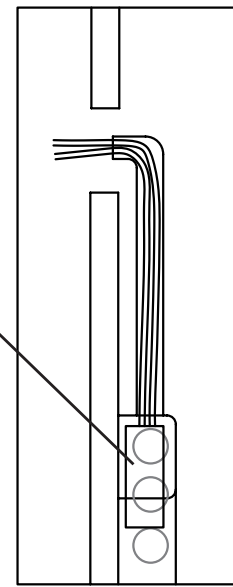

Fig. 2
2. The power supply (D) must be installed in a remote and accessible location near the fixture (E) in accordance with local electrical code (Fig. 2). Make appropriate connections:
3. Loosen set screws (A) and remove the fixture mounting block (B).
4. Mount the fixture mounting block (B) to the wall using drywall screws and anchors (not included), or other hardware as appropriate. The center of the mounting block is the center of your fixture location, and where the low voltage wires will come through.
5. Drill a small hole (F) at this fixture location. and pull the fixture's power leads through the center hole of the mounting block.
7. Fit the fixture (E) over the mounting block, then tighten the set screw (A) with included Allen key to secure the fixture in place.